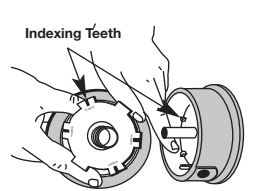

Fig. 27
- Check the indexing teeth on the inner reel and outer spool for wear (Fig. 27). If necessary, remove burrs or replace the reel and spool.